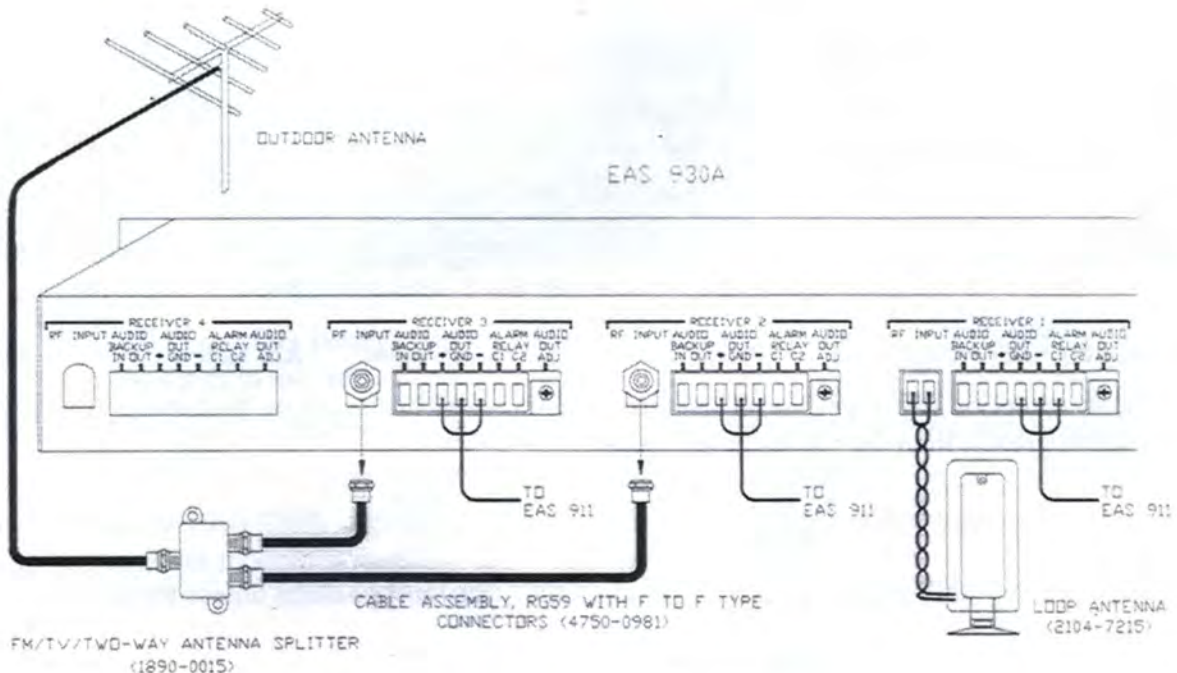

Figure 4-1. EAS 930A RF Input Connections
The EAS 930A Receiver requires connections to antennas as shown in Figure 4-1. The 930A also requires connection to prime power. The receiver audio outputs are typically connected to the TFT Model 911 Emergency Alert System Decoder's audio inputs.
- g. Connect the AM loop antenna to the RF INPUT terminals of the AM receiver module in the rear panel according to the EAS 930A RF Input Connections Diagram (Figure 4-1).
- g. Connect the an FM antenna to the RF INPUT terminals of the AM receiver module in the rear panel according to the EAS 930A RF Input Connections Diagram (Figure 4-1).
- g. Connect the an outdoor antenna to the RF INPUT terminals of the Weather receiver module in the rear panel according to the EAS 930A RF Input Connections Diagram (Figure 4-1).